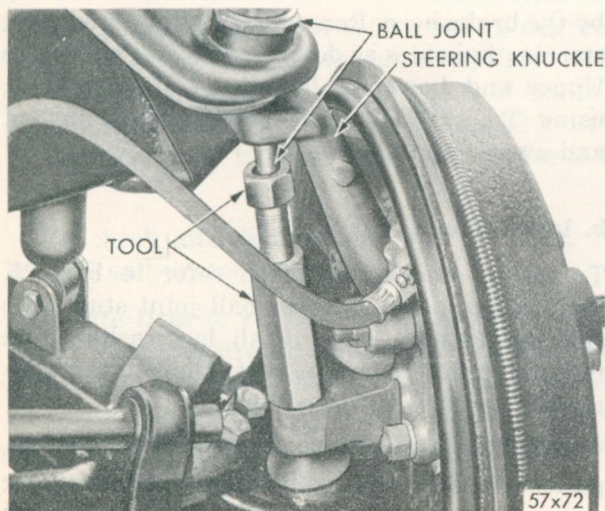

Fig. 26—Removing Upper Ball Joint—
9. SERVICING THE BALL JOINTS—(UPPER AND LOWER) (FIGS. 26 and 27)
Remove wheel and tire assembly. With support under the lower control arm, remove upper and lower ball joint stud nuts. Install Tool C-3564 (Fig. 26). Apply load to studs and rap knuckles at ball joint boss sharply with a hammer to loosen stud. To avoid damaging stud do not attempt to hammer stud out of knuckle.